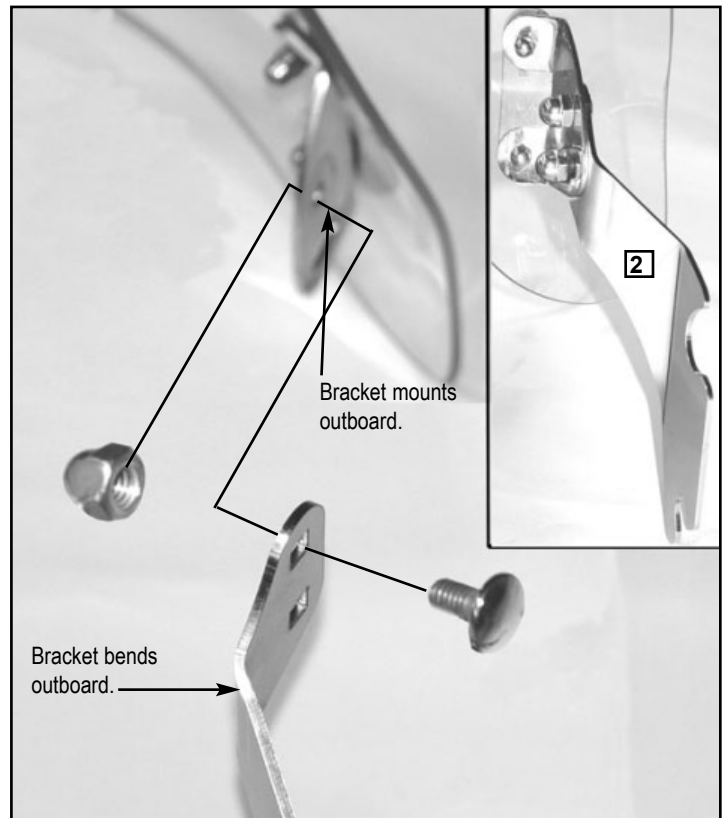

Figure 2. Right Side Bracket Assembly
1. Identify right side Bracket (2).
2. Assemble right Bracket to right side of windshield with Carriage Bolts (3) and Nuts (4). Be certain Bolt neck seats correctly in Bracket. **(9/16 Socket and Wrench) Figure 2.**
1. Push the Roller Cap Bushing (3) into the large Upper Spool (4) so the thin side of the Spool is near the head of the Roller Cap Bushing. **Figure 2.**